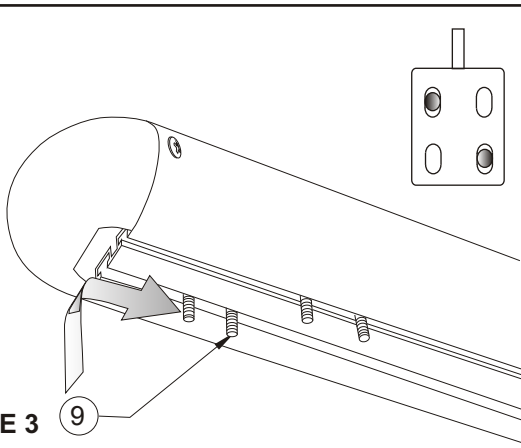

FIGURE 3
- STEP 5. Slide T-head bolts on step bar as shown (2 per slot, 4 per bar). Place step bar on saddle with long step pad forward and end cap screw facing inward. Assemble with 1/4" fasteners. **SEE FIGURES 3 AND 4.**